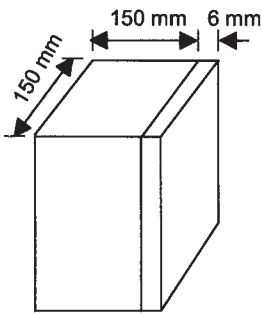

Figure 25.15 Problem 5
- 5 A timber beam with a rectangular cross-section 150 mm \times 150 mm is reinforced by a steel plate of thickness 6 mm and the same width of 150 mm as the beam being bolted to one face (Figure 25.15). When the composite is subject to an axial load, what will be the stress in the steel when the stress in the timber is 6 MPa and the value of the axial load? The steel has a modulus of elasticity of 200 GPa and the timber a modulus of elasticity of 8 GPa.